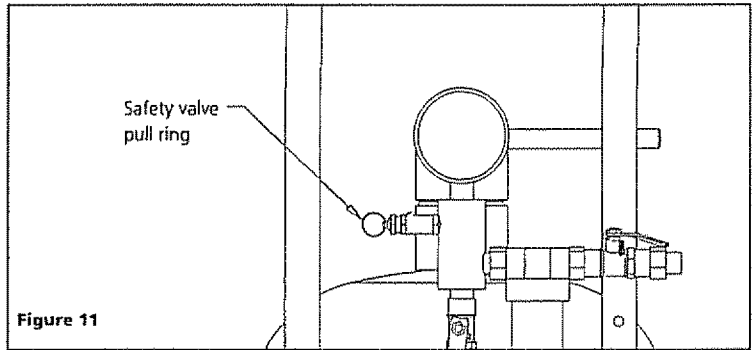

Figure 11
9. Check the Safety valve by pulling the ring on the safety valve (see Figure 11). A high flow of air will be released from the valve and continually flow out. Look at the pressure gauge on the tank; the air pressure should decrease. If the air enters the tank faster than the air leaving the safety valve, the safety valve is blocked and needs to be replaced. Replace the safety valve with an exact replacement.